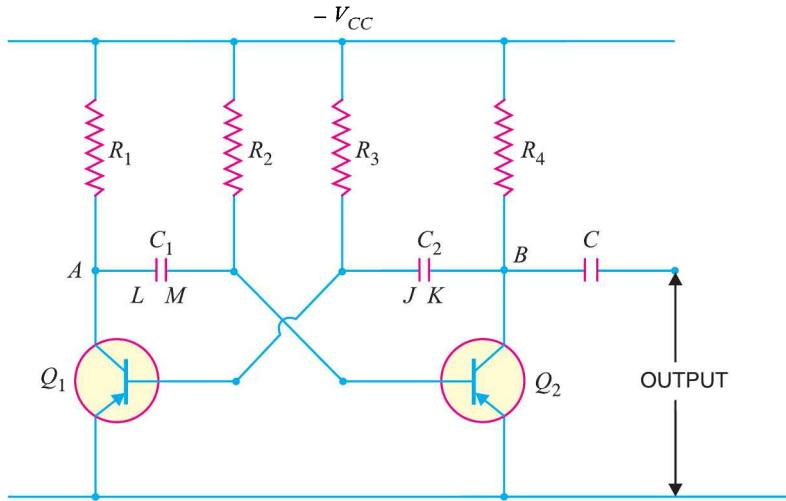

Fig. 18.13
**Circuit details.** Fig. 18.13 shows the circuit of a typical transistor astable multivibrator using two identical transistors  $Q_1$  and  $Q_2$ . The circuit essentially consists of two symmetrical *CE* amplifier stages, each providing a feedback to the other. Thus collector loads of the two stages are equal *i.e.*  $R_1 = R_4$  and the biasing resistors are also equal *i.e.*  $R_2 = R_3$ . The output of transistor  $Q_1$  is coupled to the input of  $Q_2$  through  $C_1$  while the output of  $Q_2$  is fed to the input of  $Q_1$  through  $C_2$ . The square wave output can be taken from  $Q_1$  or  $Q_2$ .
**Example 18.4.** In the astable multivibrator shown in Fig. 18.13,  $R_2 = R_3 = 10 \text{ k}\Omega$  and  $C_1 = C_2 = 0.01 \mu\text{F}$ . Determine the time period and frequency of the square waves.